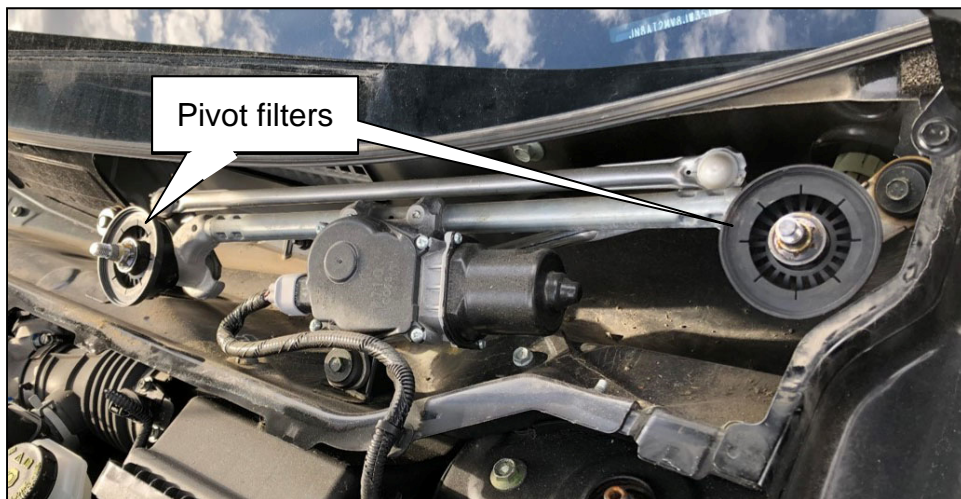

Figure 1
3. If not already equipped, install a wiper pivot filter on each wiper pivot (see Figure 1).